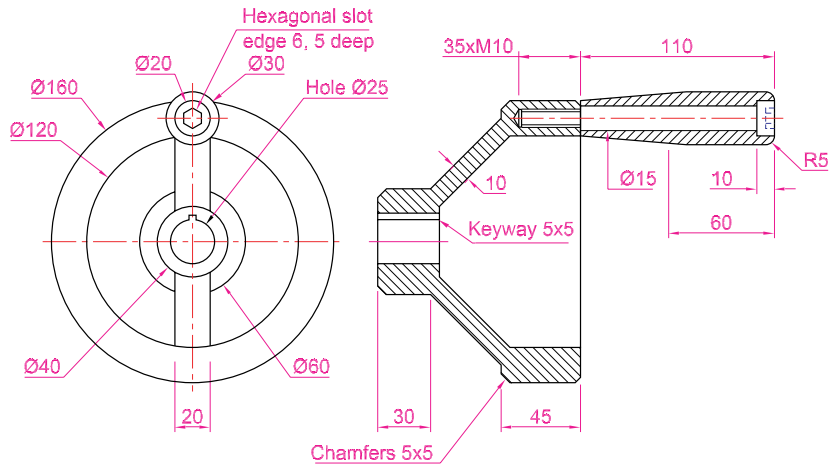

Fig. 19.26 Exercise 7 – details drawing
7. Working to the details shown in Fig. 19.26, construct a 3D model of the parts of the wheel with its handle.